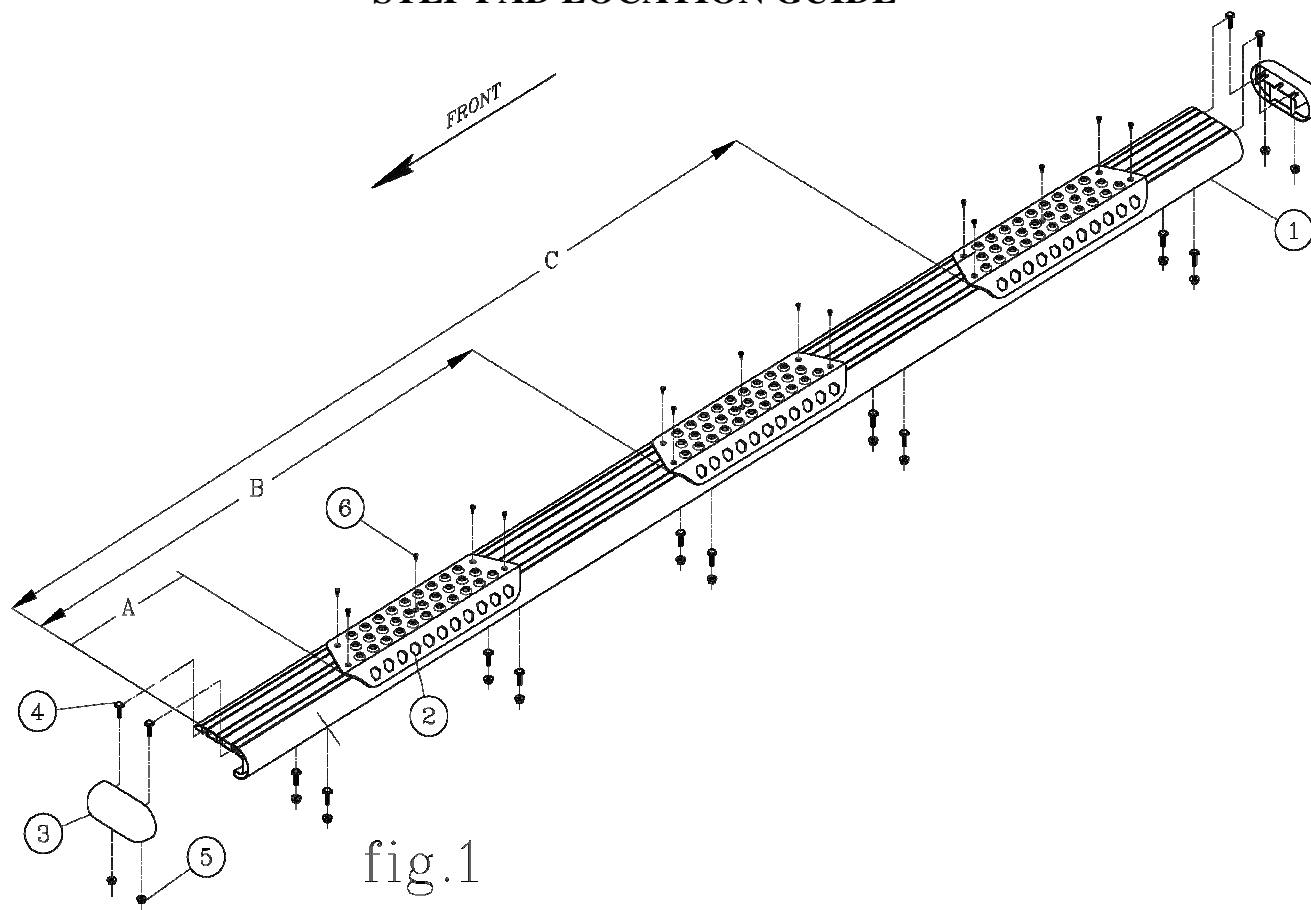

fig.1
3. BEFORE ATTACHING THE O-MEGA STEPS TO THE BRACKETS, PLACE THE STEP PADS (ITEM #2) ON TOP OF THE STEP PLATES. USE THE TABLE ON SHEET #2, AS A GUIDE TO POSITION THE STEP PAD FOR YOUR PARTICULAR VEHICLE. WHEN INSTALLING THE PADS ON THE STEPS, DRILL (5) 1/8" HOLE USING THE STEP PAD AS A GUIDE. ATTACH WITH (5) 8-18X1/2" TEK SCREWS (ITEM #6) PROVIDED. REPEAT FOR ALL STEP PADS. **(NOTE: DUE TO THE SHORTNESS OF SOME BOXES, MOUNT THE BOX STEP PAD FIRST, APPROXIMATELY 1/2" FROM THE END CAP AND THEN MOUNT THE MIDDLE STEP PAD ACCORDINGLY.)**
5. INSTALL THE END CAPS (ITEM #3) AS SHOWN IN *fig. 1*, TIGHTENING THE NUTS TO 5 LB FT.